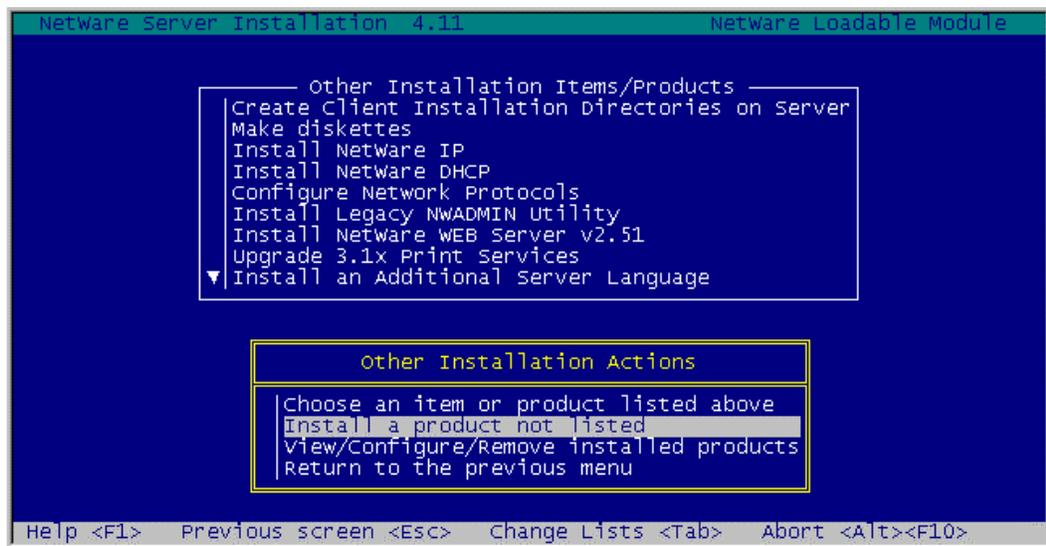

Figure 11-2. Other Installation Actions Menu
3. Choose the menu selection “**Product options**” and press **ENTER**. The Other Installation Actions menu will display (Figure 11-2).